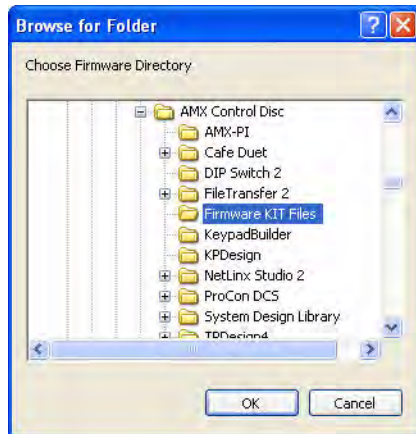

FIG. 30 Browse For Folder dialog (NetLinx Studio)
2. Click the **Browse (...)** button to navigate to the target directory in the *Browse For Folder* dialog (FIG. 30).